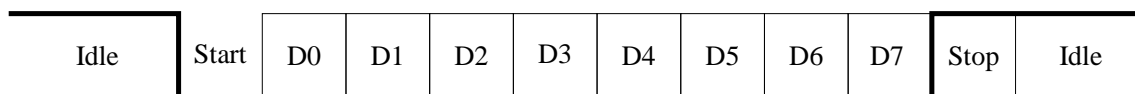
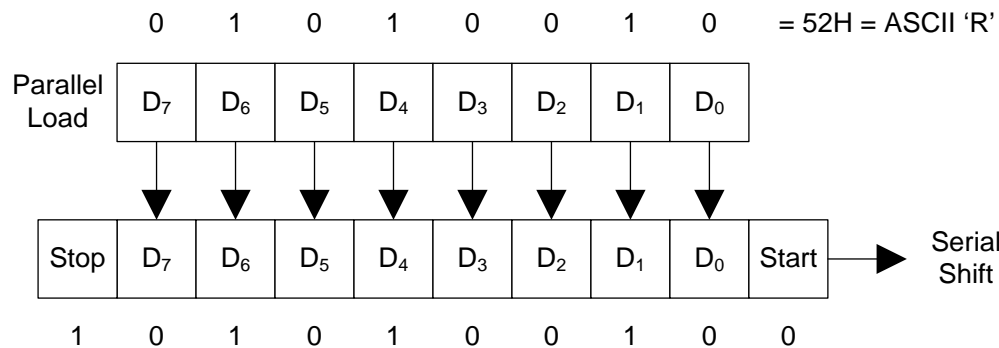

Figure 2 ASCII Composite Character
Figure 3 Appending Start and Stop Bits to an ASCII Character
Figure 2 shows the format of an asynchronously-transmitted ASCII character at TTL levels. The transmission line remains HIGH when no characters are transmitted. To indicate the start of a character, the line goes LOW for one bit time (Start bit). This is followed by 8 data bits, LSB first. The character ends when the line goes HIGH for one bit time (Stop bit).
The Start and Stop bits are appended to the character when it is parallel-loaded into the transmit shift register, as shown in Figure 3. Notice that the character in Figure 2 seems "backwards" compared to the way it is loaded in Figure 3. This is because the Start bit is transmitted first, which would show up on the left of an oscilloscope trace, since this represents the earliest point in time.
- Internal signal acts as shift register with 10-bit width. (See Figures 2 and 3.)